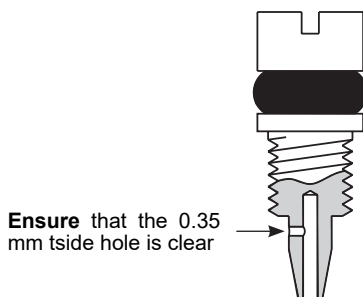

Fig. 26
5.2.1 Removal and cleaning of sensitivity adjuster (see Figure 26):